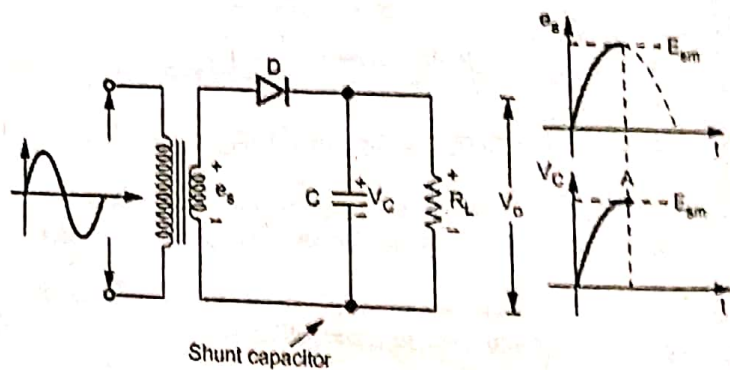

Fig. Q.25.1 Shunt capacitor filter with HWR
Ans. : • The circuit diagram of half wave rectifier with shunt capacitor filter is shown in the Fig. Q.25.1.
- During the positive quarter cycle of the input, the capacitor C charges to peak value of the input i.e. E_{sm} . This is point A as shown in the Fig. Q.25.1.